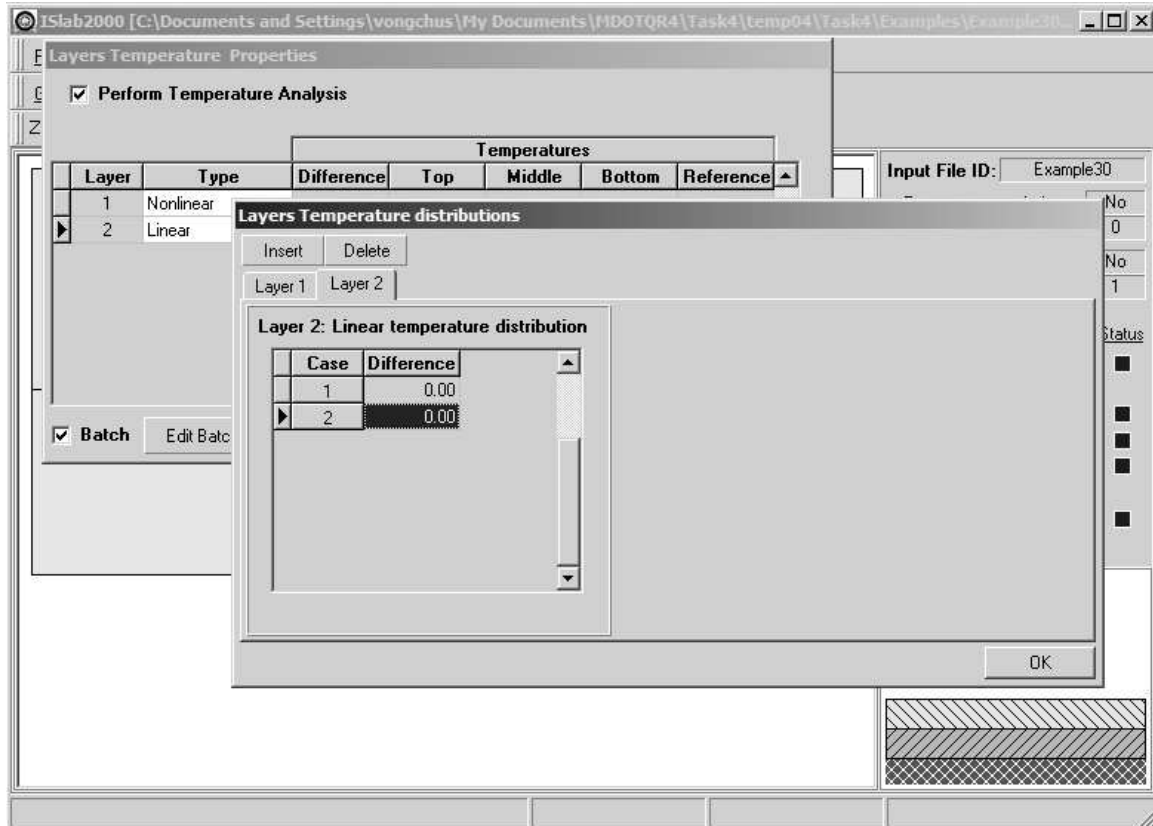

Figure E31-3: Edit Inputs for the Temperature Module (continued)
- Step 5: On Layer 2, enter zero in the other temperature differential across the base layer (see Figure E31-3.)